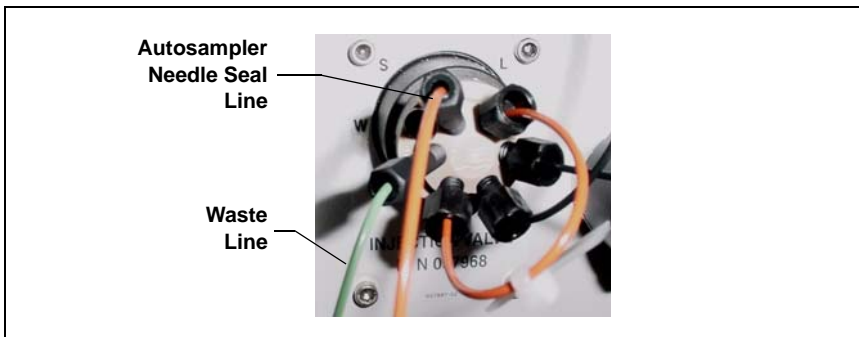

Figure 7. Injection Valve
4. Connect the needle seal line to port **S (5)** on the injection valve (see Figure 7).